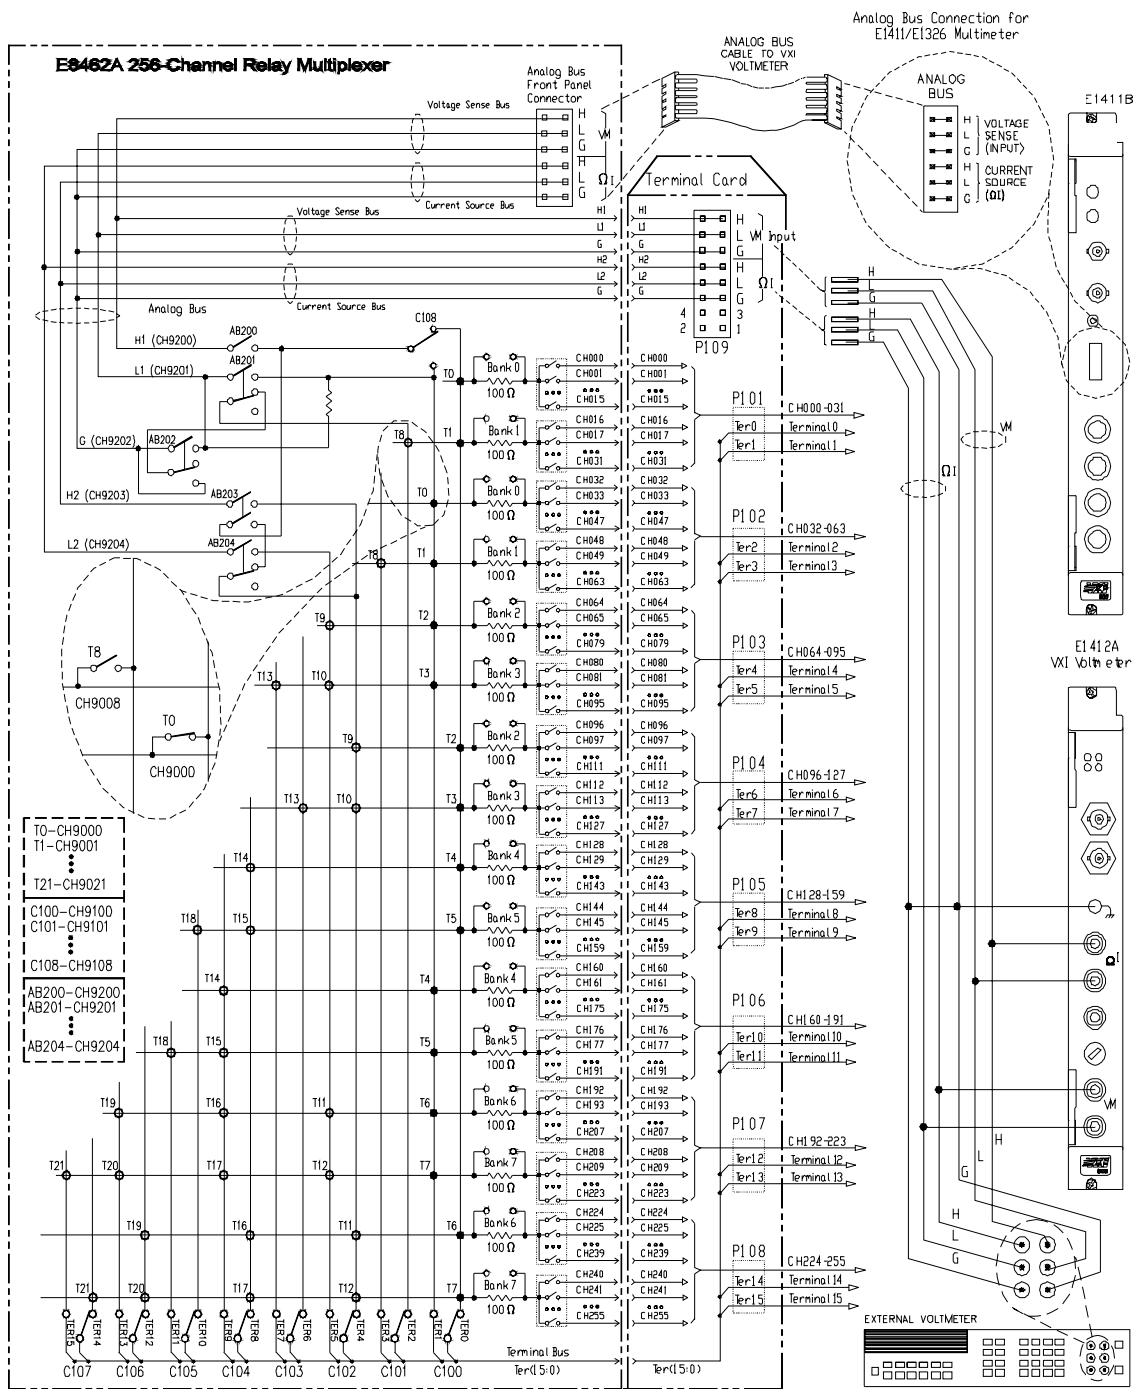
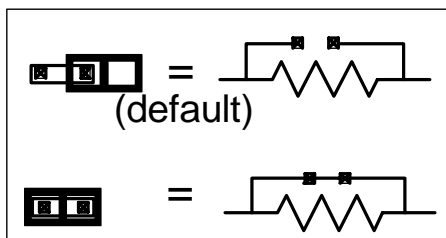

Figure 1-1. Agilent E8462A Simplified Schematic
Figure 1-3. Protection Resistors and Jumpers
Figure 1-1 shows the Agilent E8462A armature relay multiplexer simplified block diagram, Option 014 or 015 Terminal Card, and a simple measurement application. Notice the sixteen  $100\Omega$  protection resistors; one in series with each bank line. Refer to Figure 1-1 for the following description.
Figure 1-1 shows the 100Ω protection resistors in series with each bank line. These protection resistors limit the maximum current through the relays. However, in some measurements (such as 2-Wire resistance measurements) you may want to bypass the protection resistors. Each resistor has a jumper (J601 for Bank 0, JP602 for Bank 1, JP 603 for Bank2, . . . JP616 for Bank 15) across it allowing you to short out the resistor if necessary. Refer to Figure 1-3.
The module is shipped from the factory with a bag of jumpers. You must install these on the E8462A PC board in one of the two settings shown in Figure 1-3. It is recommended you install them in the default position shown in Figure 1-3 if your application requires 100Ω protection resistors. Install them over both jumper pins if you want to bypass the 100Ω protection resistors.
**Note** The module is shipped from the factory with a bag of jumpers. You should load these jumpers in the default position as shown in Figure 1-3 if your application requires 100Ω protection resistors. Install the jumpers across both pins if you do not require the 100Ω protection resistors in your application.